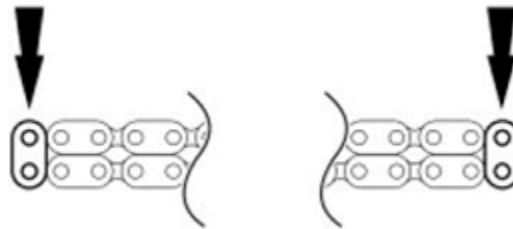

Figure 4 – Timing Chain Reference Marks For Installation
4. If there are no colored links visible on the chain, lay chain out and stretch it so you have two links on both ends and mark those for reference as shown in Figure 4.